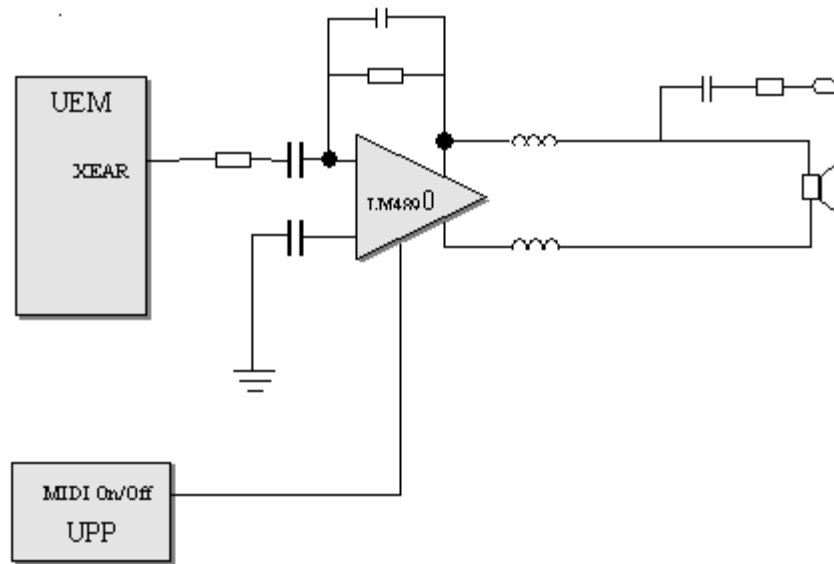

Figure 2: Audio HW section for MIDI
The MIDI audio signal generated by the DSP and UEM audio CoDec is routed to the XEAR output of the UEM. An audio amplifier is used to boost enough power for the speaker. GENIO (28) is used to enable/disable the audio amplifier as needed. Figure 2 is a block diagram of the audio hardware section for MIDI.